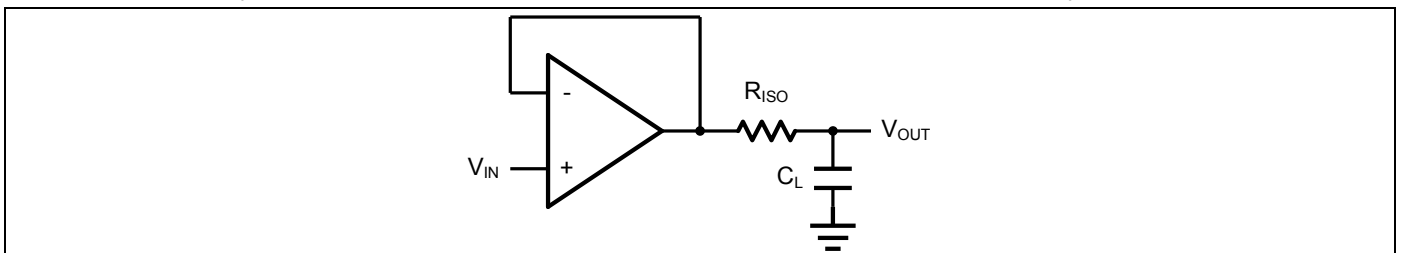
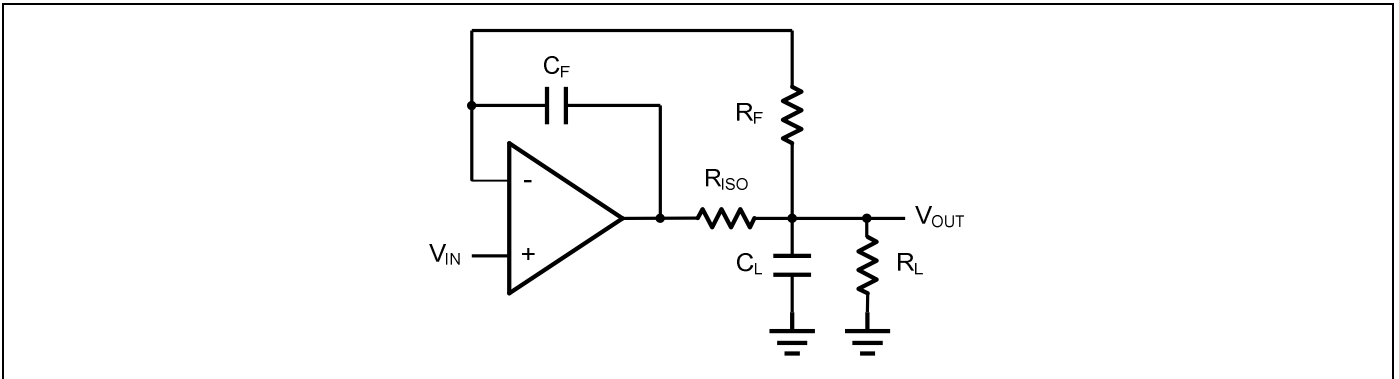

Figure 2. Indirectly Driving a Capacitive Load Using Isolation Resistor
Figure 3. Indirectly Driving a Capacitive Load with DC Accuracy
The HGV805X family is optimized for bandwidth and speed, not for driving capacitive loads. Output capacitance will create a pole in the amplifier's feedback path, leading to excessive peaking and potential oscillation. If dealing with load capacitance is a requirement of the application, the two strategies to consider are (1) using a small resistor in series with the amplifier's output and the load capacitance and (2) reducing the bandwidth of the amplifier's feedback loop by increasing the overall noise gain. Figure 2. shows a unity gain follower using the series resistor strategy. The resistor isolates the output from the capacitance and, more importantly, creates a zero in the feedback path that compensates for the pole created by the output capacitance.
The circuit in Figure 3 is an improvement to the one in Figure 2.  $R_F$  provides the DC accuracy by feed-forward the  $V_{IN}$  to  $R_L$ .  $C_F$  and  $R_{ISO}$  serve to counteract the loss of phase margin by feeding the high frequency component of the output signal back to the amplifier's inverting input, thereby preserving the phase margin in the overall feedback loop. Capacitive drive can be increased by increasing the value of  $C_F$ . This in turn will slow down the pulse response.